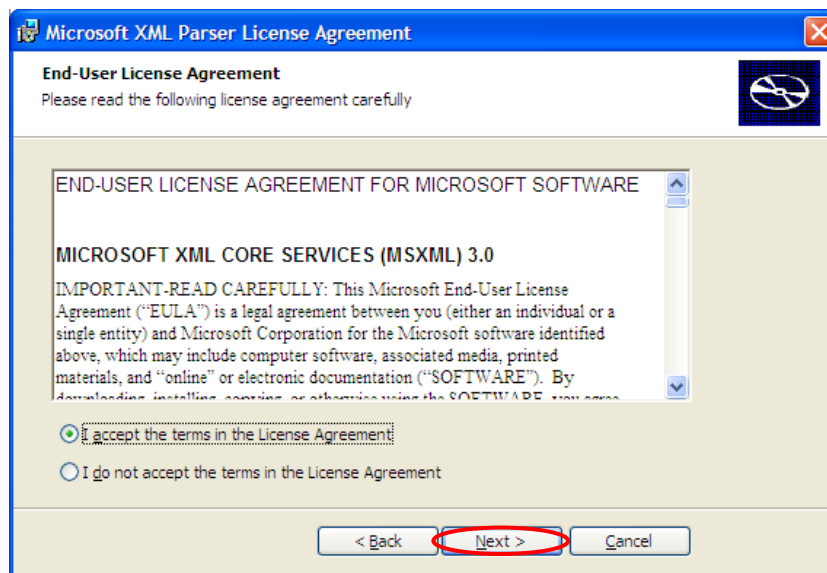

Figure 1-1-12 Installation Steps (12)
- Select "I accept the terms in the License Agreement" and click "Next" button, as shown in figure 1-1-12.